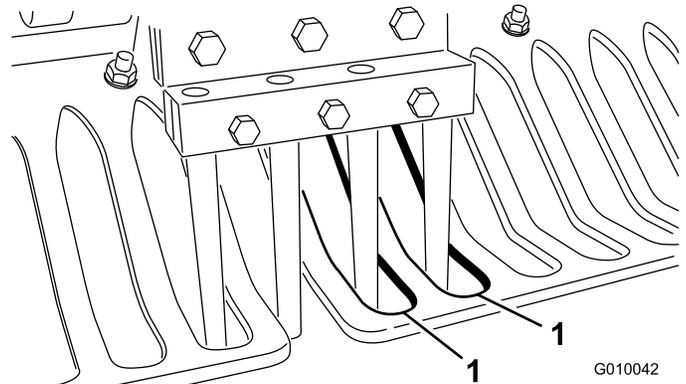

Figure 27
6. Check that the tines line up with the center of the gaps in the turf guards (Figure 27). Adjust the turf guards as required and tighten the nuts.